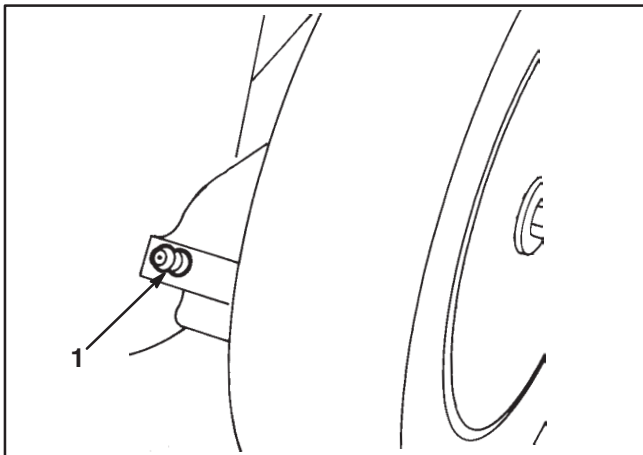

Figure 26
2. Move rear wheel height–of–cut levers to “2” setting. Wipe grease fittings with clean rag (Fig. 26). Install grease gun onto fitting and gently apply two or three pumps of #2 Multi–Purpose Lithium Base Grease.